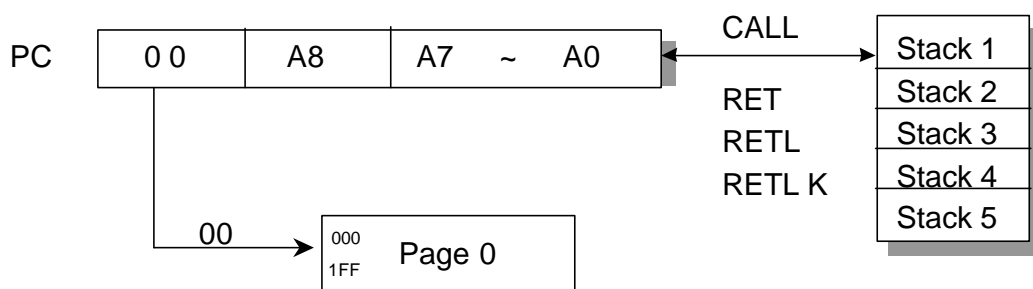

Fig. 3 Program Counter Organization
- Depending on the device type, R2 and hardware stack are 9-bit wide. The structure is depicted in Fig.3.